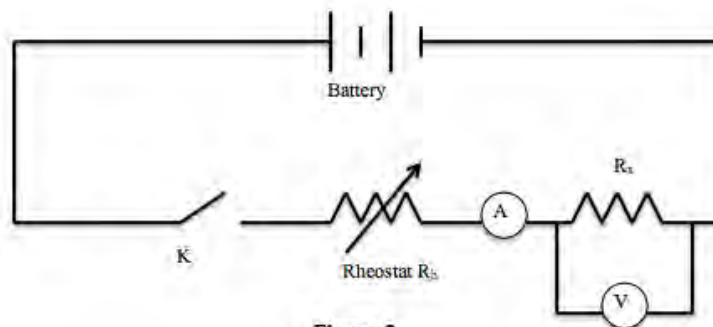

Figure 2
- Connect the circuit as shown in Figure 2. Close the key K. Adjust the rheostat R_h so that a small current passes through the conductor of unknown resistance R_x .